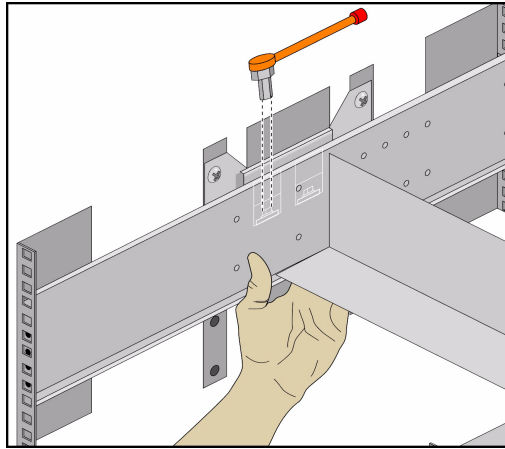

Figure 1-14 Alignment with the D-Rack Stiffener Vertical Bolt
2. Using the included alignment tool (Figure 1-14), insert it into the rails so that it rests on the inner track of the outer rails, just as a chassis would.